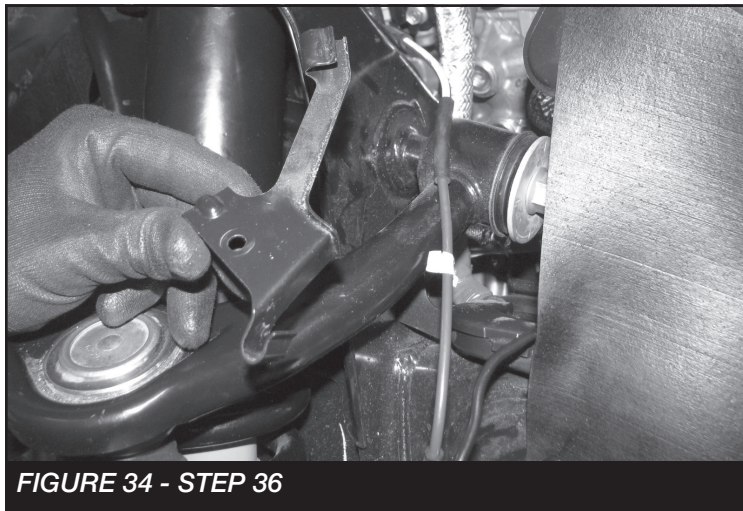

FIGURE 34 - STEP 36
36. Remove the factory ABS line bracket attached to the upper control arm. This will not be reinstalled. **SEE FIGURE 34**